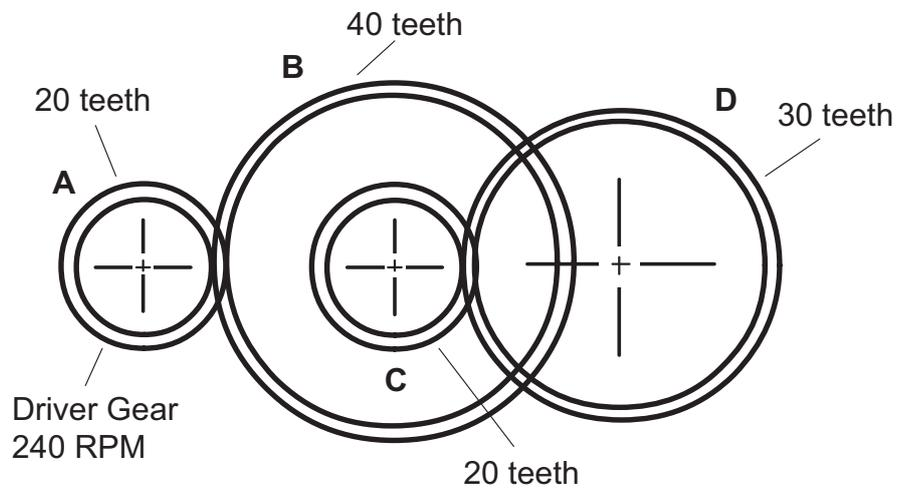

Fig. 10
- (d) A compound gear train shown in **Fig. 10** has four gears. Gear **A** has 20 teeth, gear **B** has 40 teeth, gear **C** has 20 teeth and gear **D** has 30 teeth. The driver gear **A** rotates at 240 RPM.